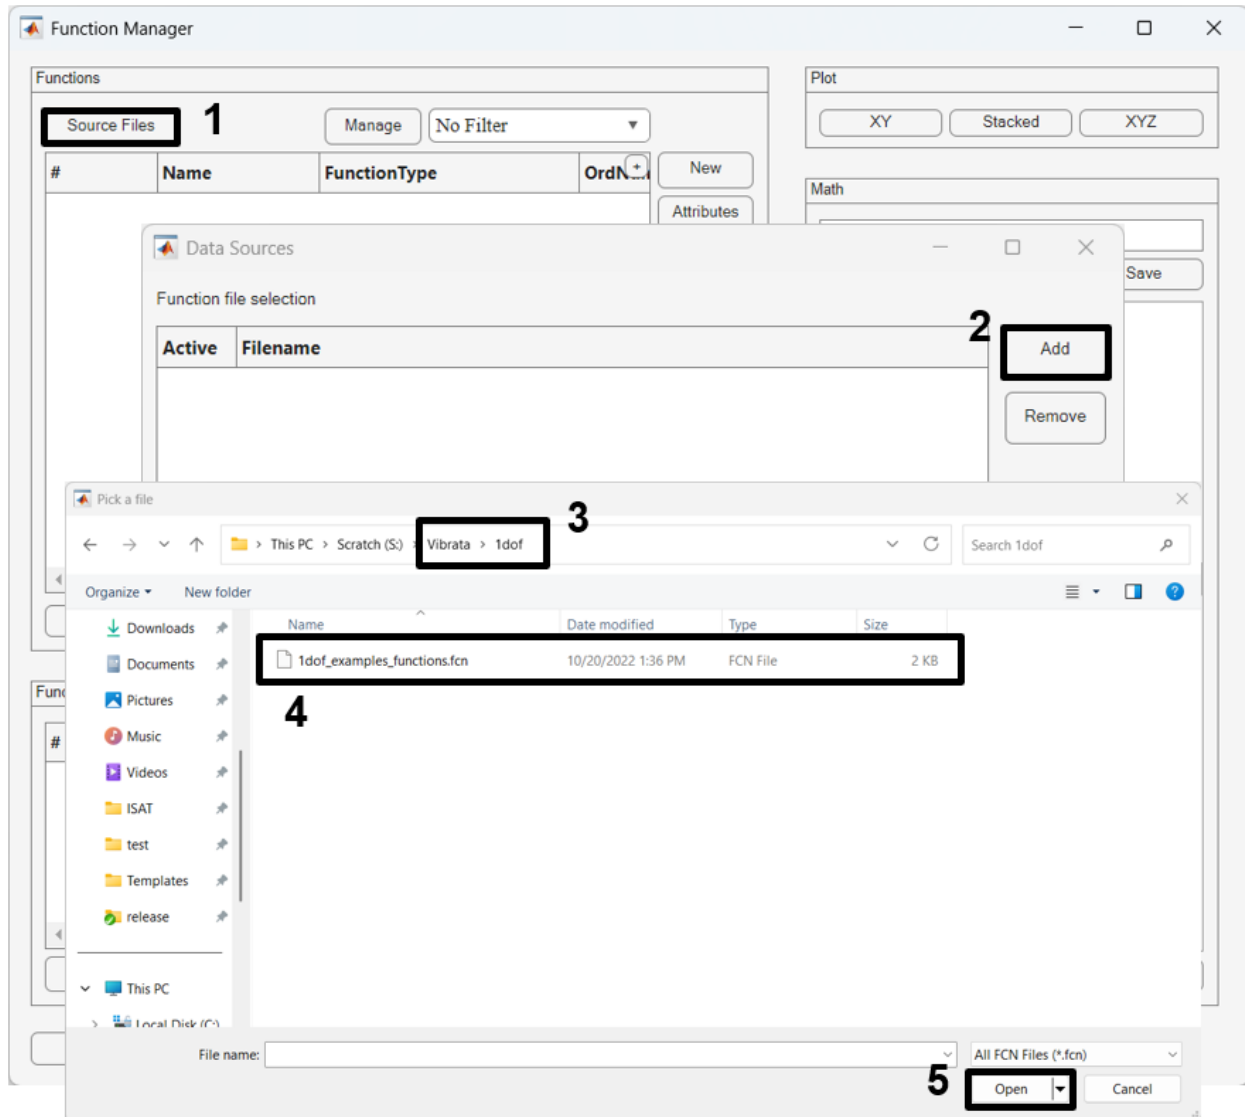

Figure 4-27. If necessary, reopen the file containing the excitation function from the 1dof example.
- a. In the Function Manager dialog, click the **Source Files** button and open the function file from the 1DOF example (Figure 4-27).